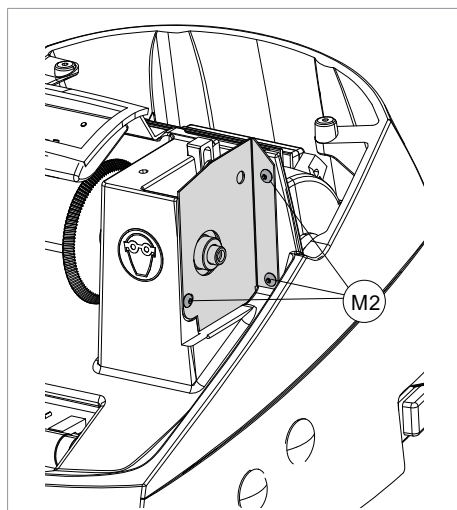

Fig. 53
- 4) Remove the 3 screw (M2) to remove the protective cover (Fig. 53).